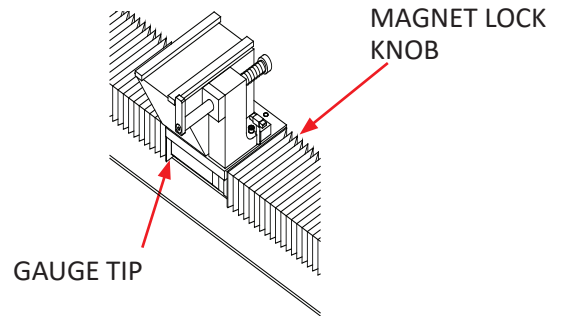

FIG. 33
1. Pull both gauge tips forward and rotate to lock into position. Loosen the magnet knob on the right side magnet assembly. See FIG. 33. Set the bedknife / bedbar assembly to be ground on the electromagnets. Move the right side magnet assembly until the alignment gauge tips are at both ends of the bedknife, tighten the right side magnet lock knob enough to secure the magnet.